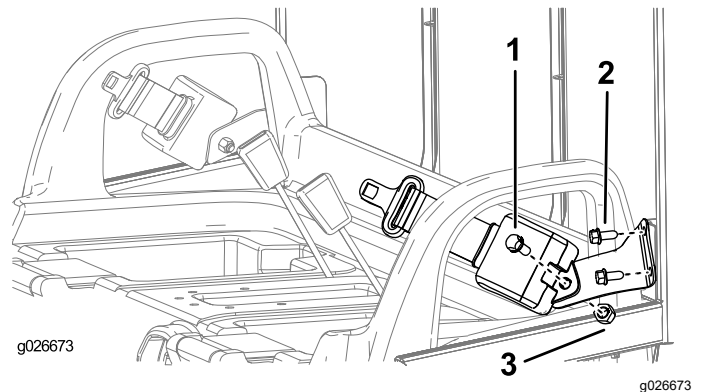

Figure 10
1. Mount a seat-belt bracket to each ROPS tab with 2 bolts (3/8 inch) as shown in Figure 10.
3. Mount the retractable end of each seat-belt assembly to each seat-belt anchor bracket with a bolt (7/16 inch) and a nut (7/16 inch) as shown in Figure 10.